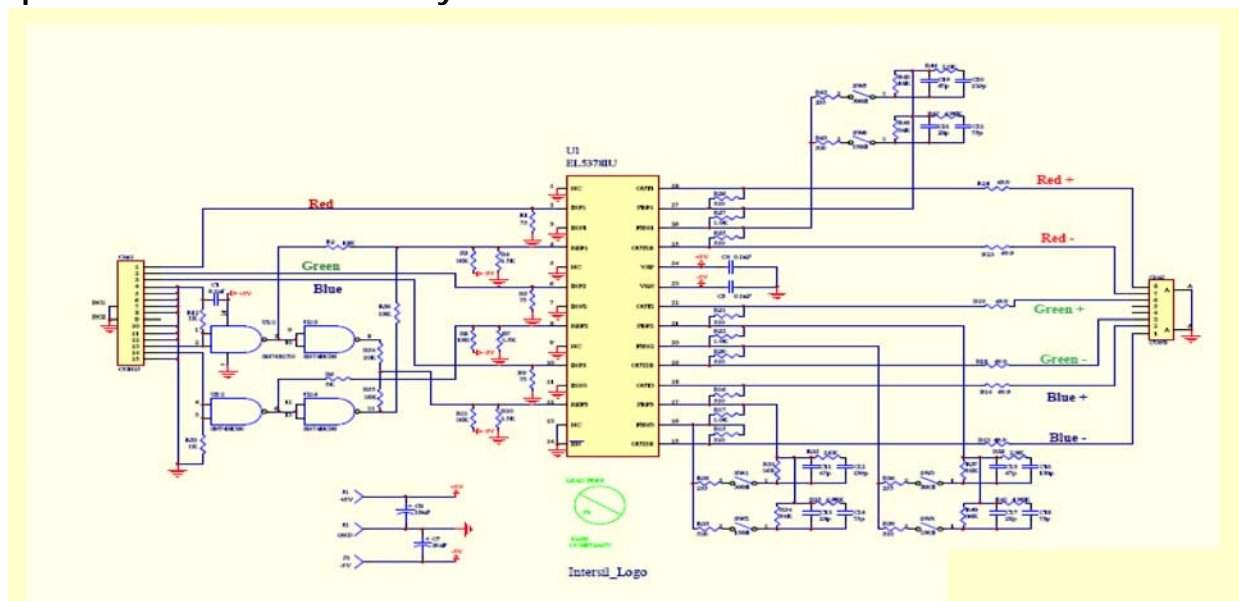

FIGURE 12. KVM RGB w/CMV SYNC-CABLE COMPENSATION SCHEMATIC
3. The cable pinout used is the same as used on the Intersil EL4543 HERMES-DEMO-BOARDZ, see Figure 12.